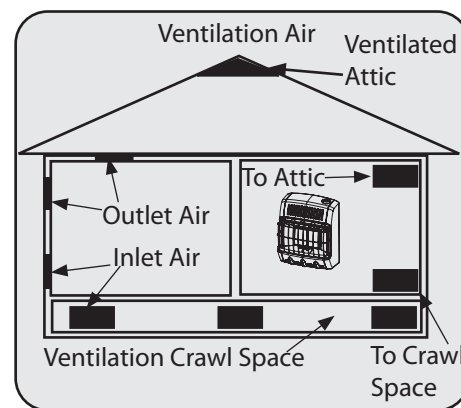

Figure 3
- b. Vent room directly to the outdoors. See Ventilation From Outdoors (Fig. 3).